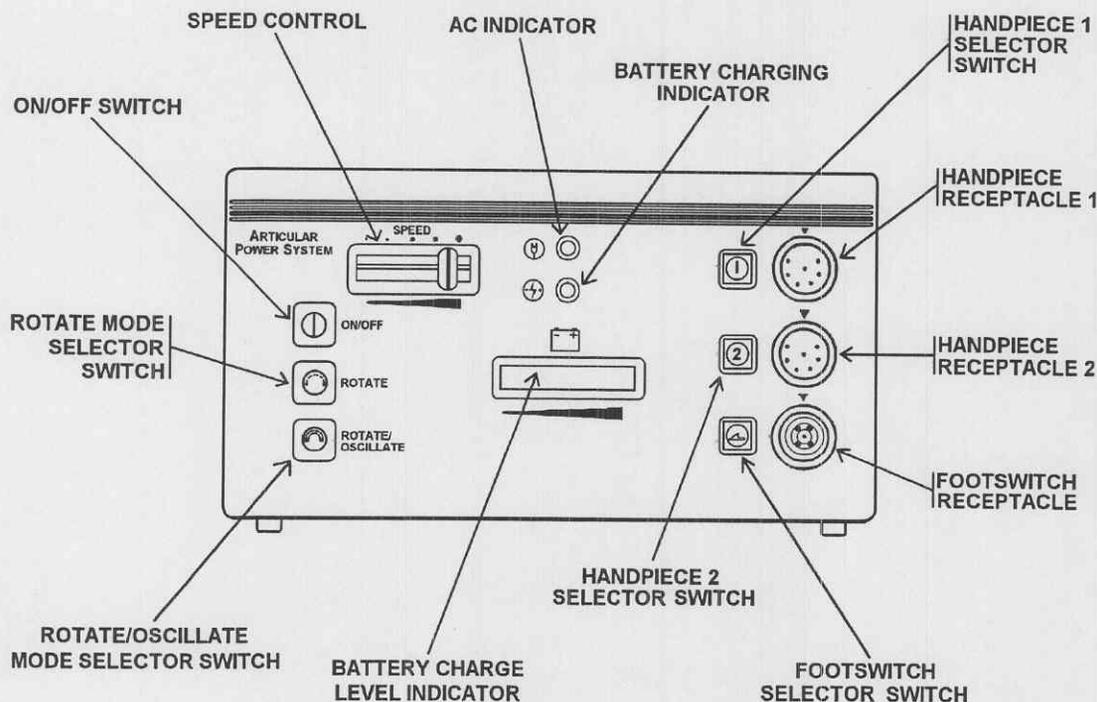

Figure 2-2. APS controls, indicators, and receptacles.
2-4. APS controls, indicators, and receptacles (fig 2-2).
- f. Observe that the handpiece speed is determined by the position of the APS console sliding **SPEED** control switch (fig 2-2). The handpiece speed can be adjusted by sliding the **SPEED** control to the left or to the right. The handpiece speed can be adjusted during operation.